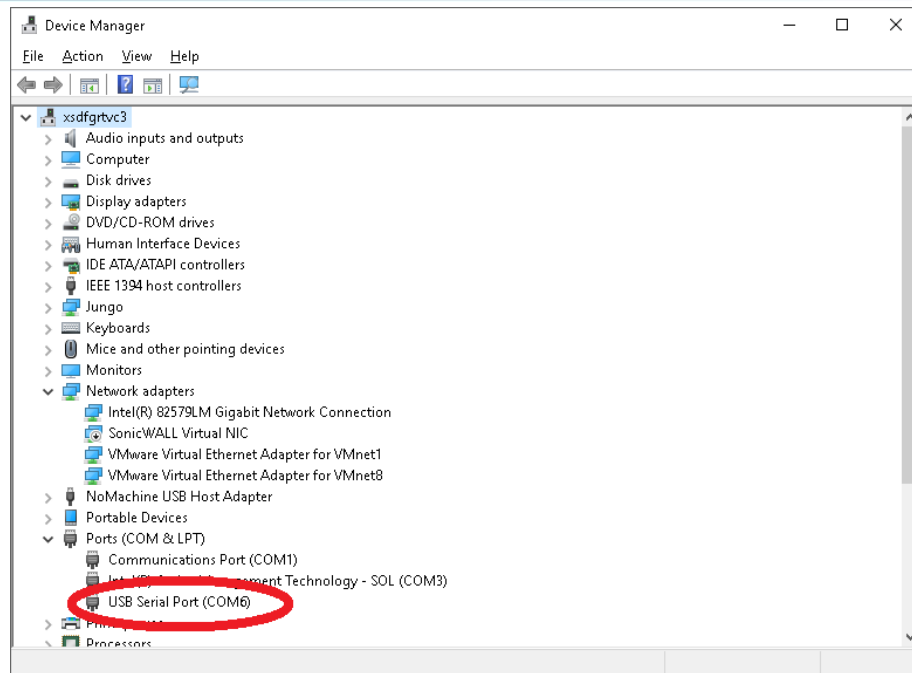

Figure 2-2 USB Serial Port in Windows Device Manager
- 4) If the Windows driver is successfully installed, you should be able to find a new COM port in Windows Device Manager, as shown in Figure 2-2.
To select the COM port in Arduino IDE, click the menu Tool / Port, as shown in Figure 2-8. The COM port for M10 board is usually the one that has the biggest index number, but not always. If you have trouble determining which COM port corresponds to the M10 board, you can always open the device manager to check, as illustrated in Figure 2-2.